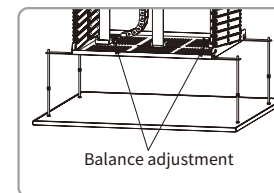

Figure 15
- 11. The installation board may be unbalanced since the difference of woven belt's tightness or the not centric barycenter of projector. To keep the installation board balance please adjust the length of woven belt. (Figure 15)